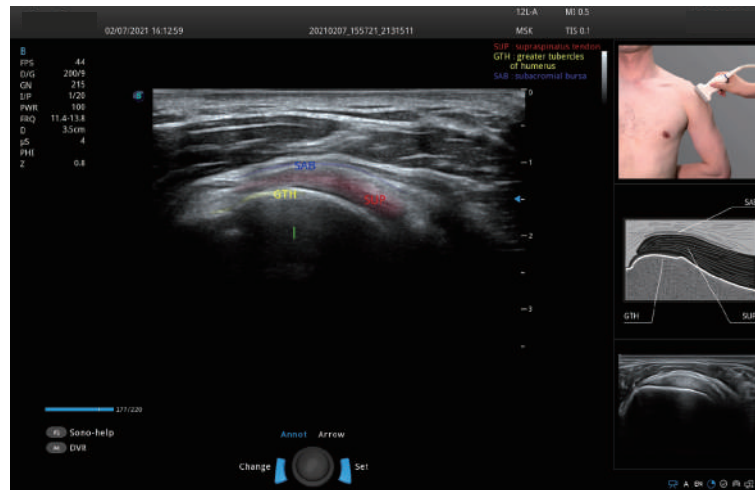

Figure 6-48 Image Display _ S-MSK
4. Tap **S-MSK(acq.)** or **S-MSK(annot.)** on the touch screen to perform the corresponding operation, as shown in Figure 6-48.